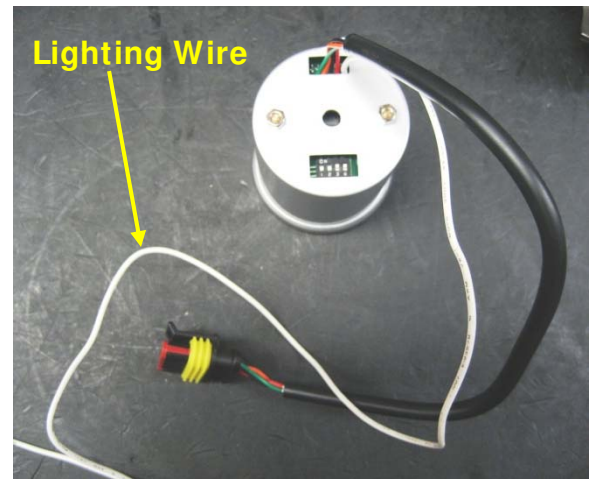

Fig. 16
4. Gauge lighting: refer to a wiring diagram for your vehicle and connect the white gauge wire to the output of the dash light dimmer knob, or directly to the headlight switch if desired (see figure 16).